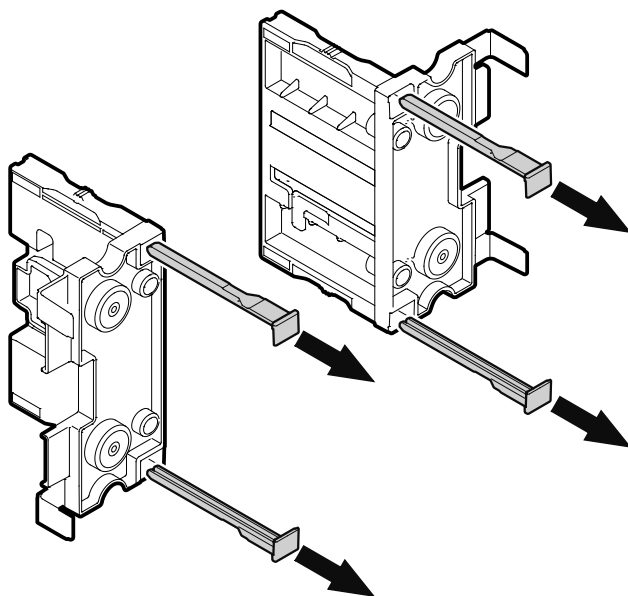

Figure 26
3. Remove the locking pins of both supports. The supports are provided with the appliance accessory pack (**Figure 26**).